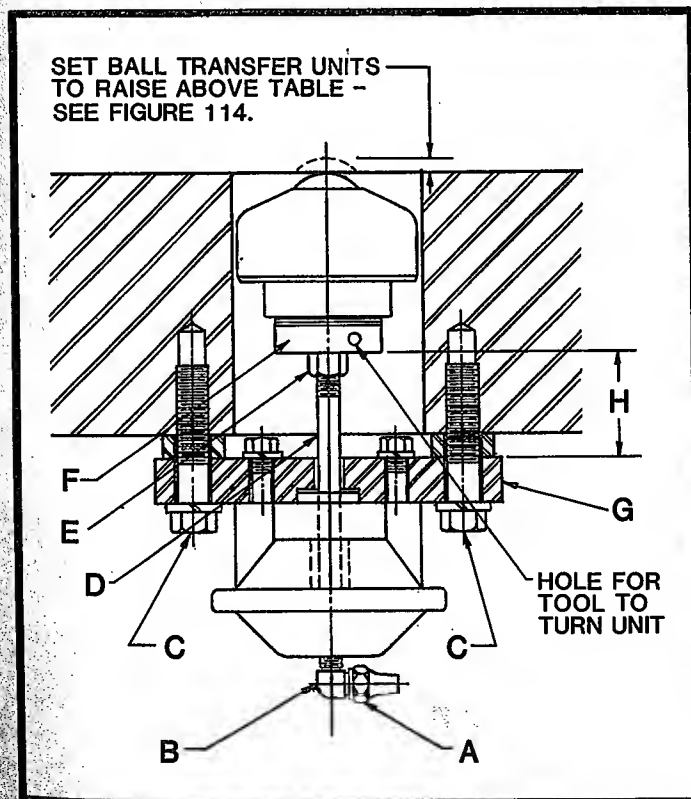

FIGURE 121
AIR OPERATED TYPE - Refer to Figure 121:
- A. Measure distance "H" (Figure 121).